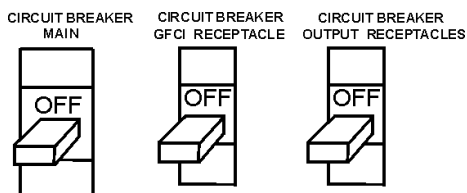

Figure 65. Main, GFCI and Load circuit breakers
1. Switch both the MAIN, GFCI and LOAD circuit breakers (Figure 65) to the "OFF" position.